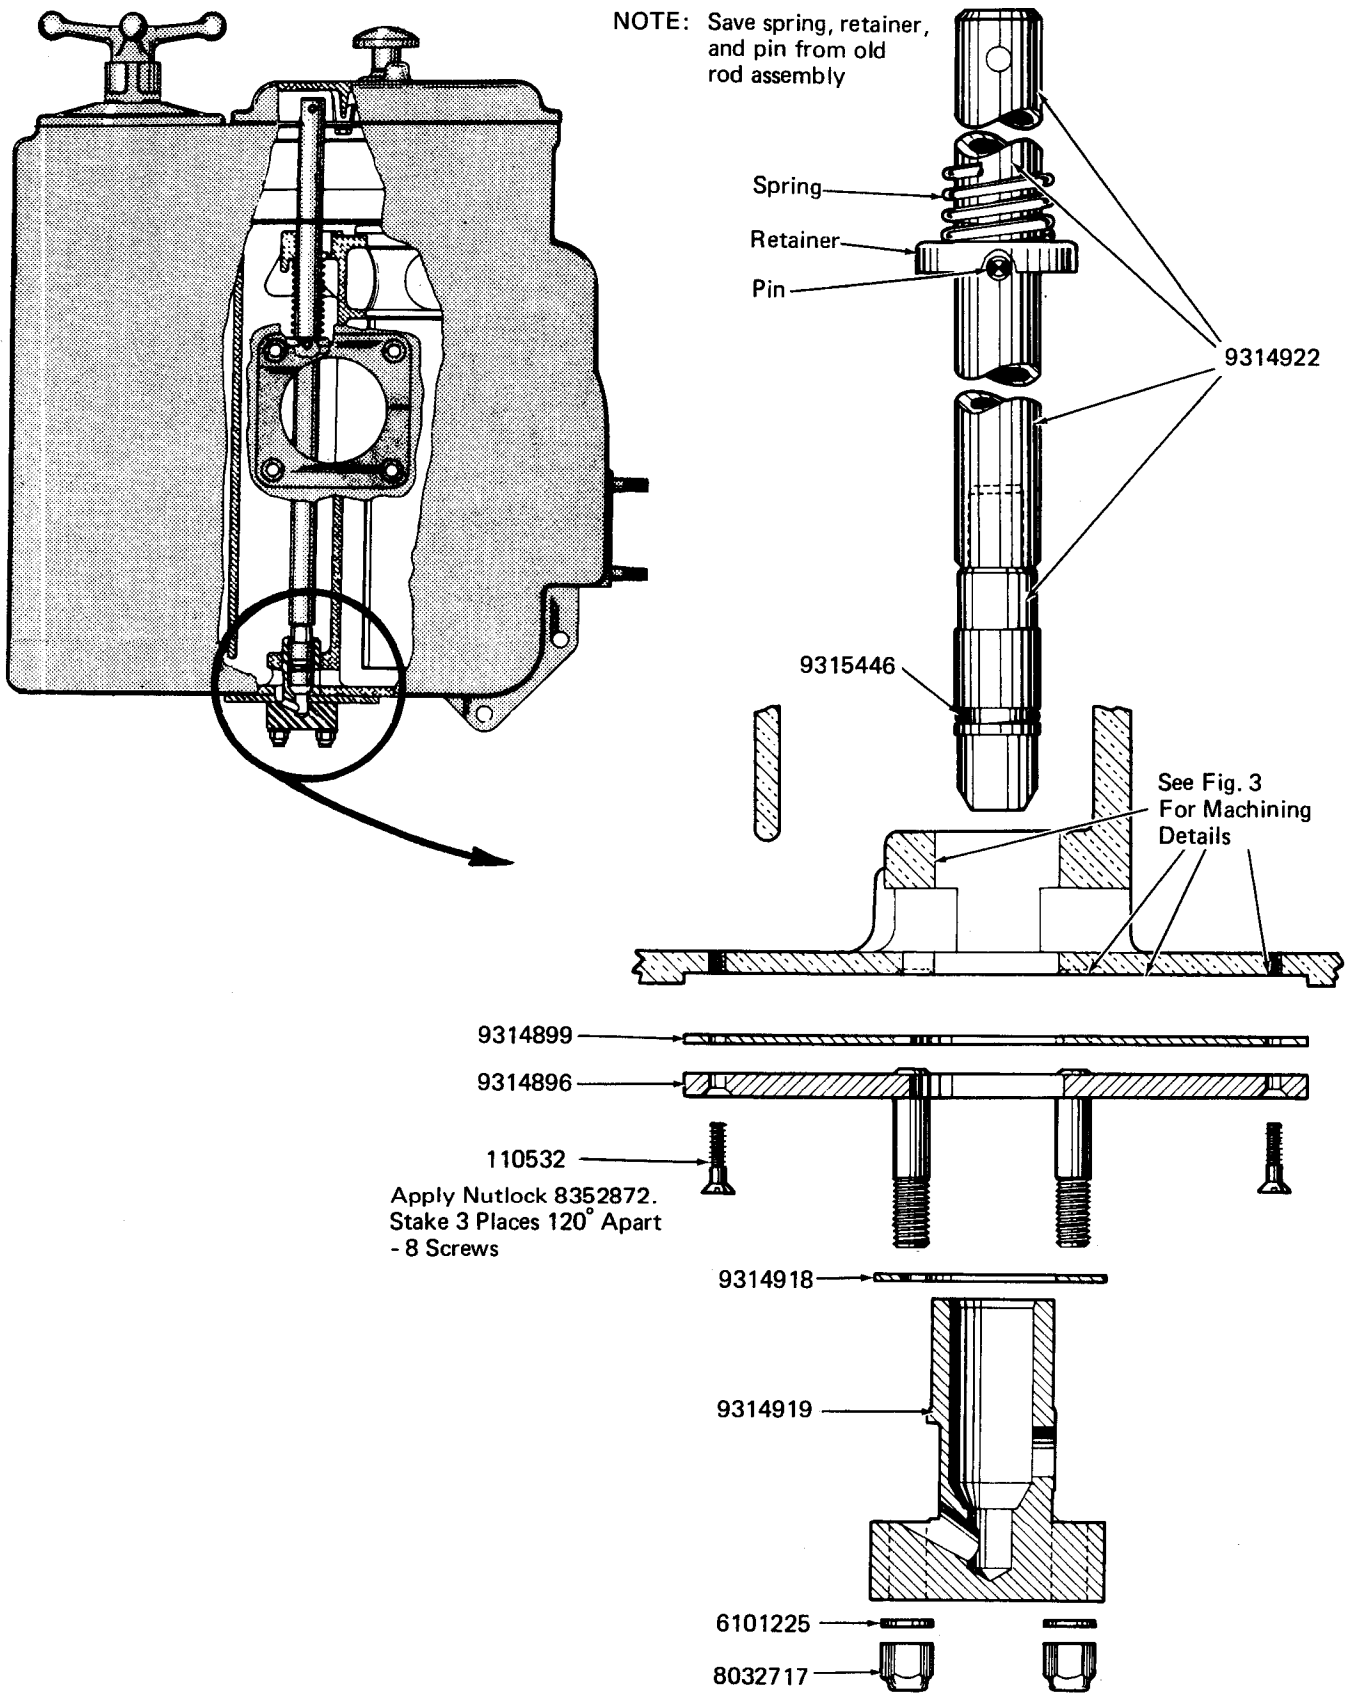

Fig. 2 - Strainer Housing Drain Valve - Exploded View
To apply the new design strainer housing drain valve, Fig. 2, four machining operations are required as indicated in Fig. 3.
7. Insert rod assembly 9314922 into appropriate opening in strainer housing. Slide spring and spring retainer from old rod assembly over the end of the rod assembly, then apply O-ring 9315446 to the rod assembly. Position the assembly as indicated in the cutaway of Fig. 2.